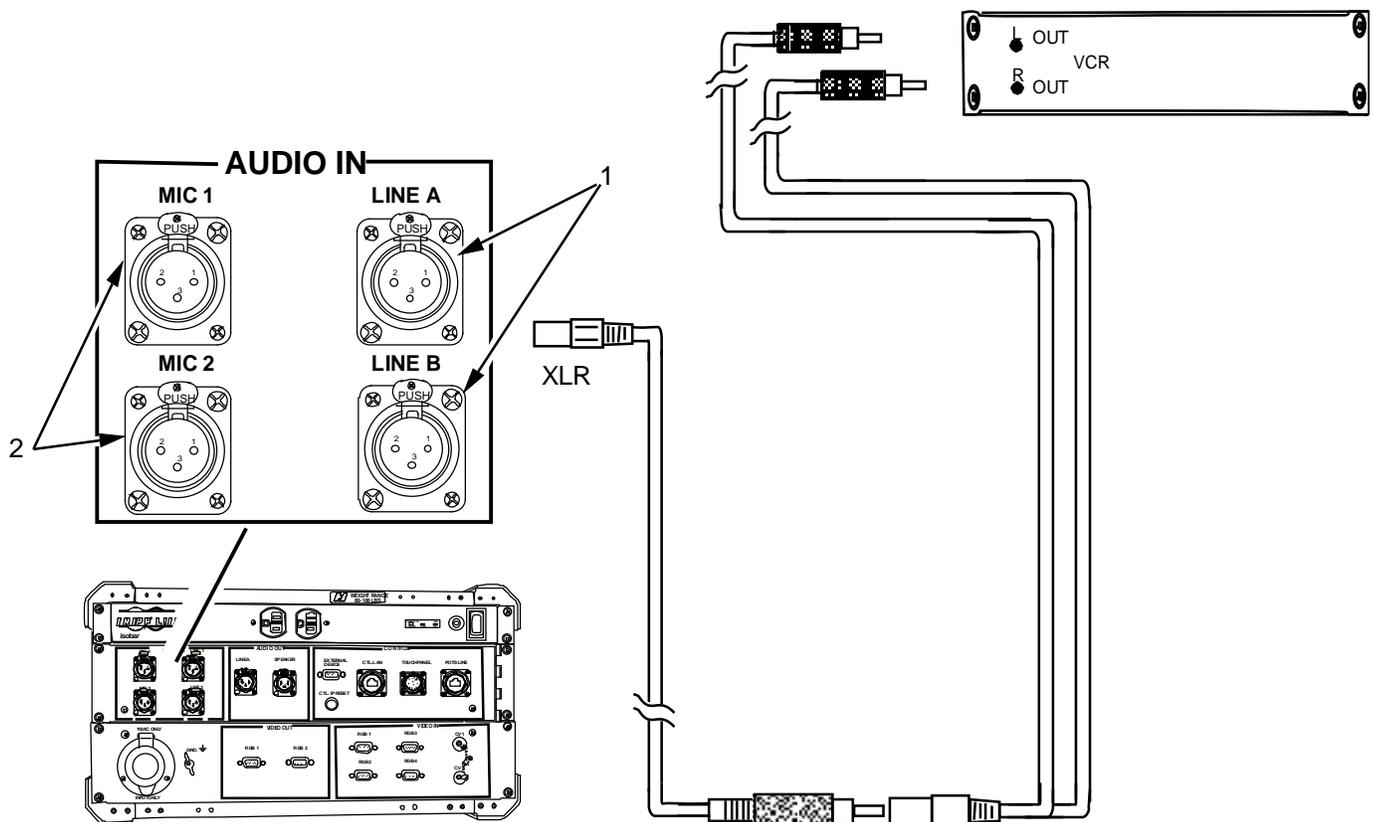

Figure 4. AUDIO IN connectors.
4. Connect an XLR audio cable from a suitable audio output device to either AUDIO IN LINE A or LINE B (Figure 4, Item 1).
5. Connect an XLR audio cable from a microphone to either AUDIO IN MIC 1 or MIC 2 (Figure 4, Item 2).